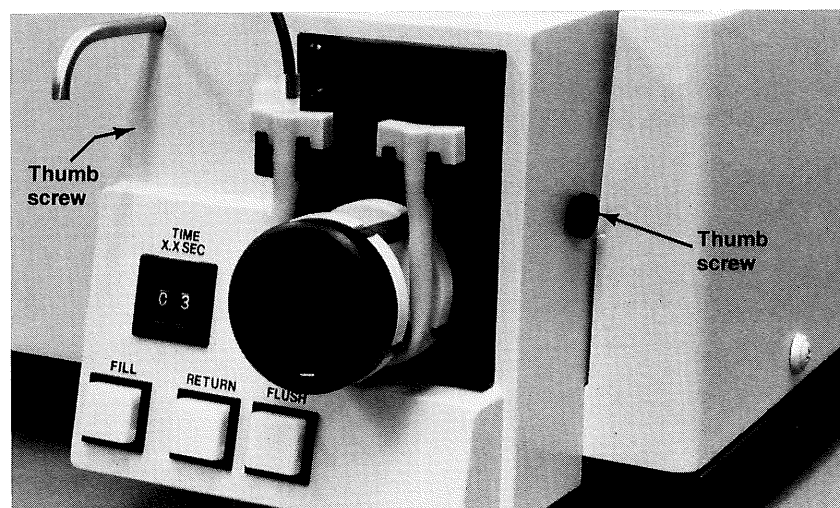

Figure 20.
22. Remove the two thumb screws which secure the front of the sipper panel. Remove the front to expose the connectors for the water fittings. See Figure 20.